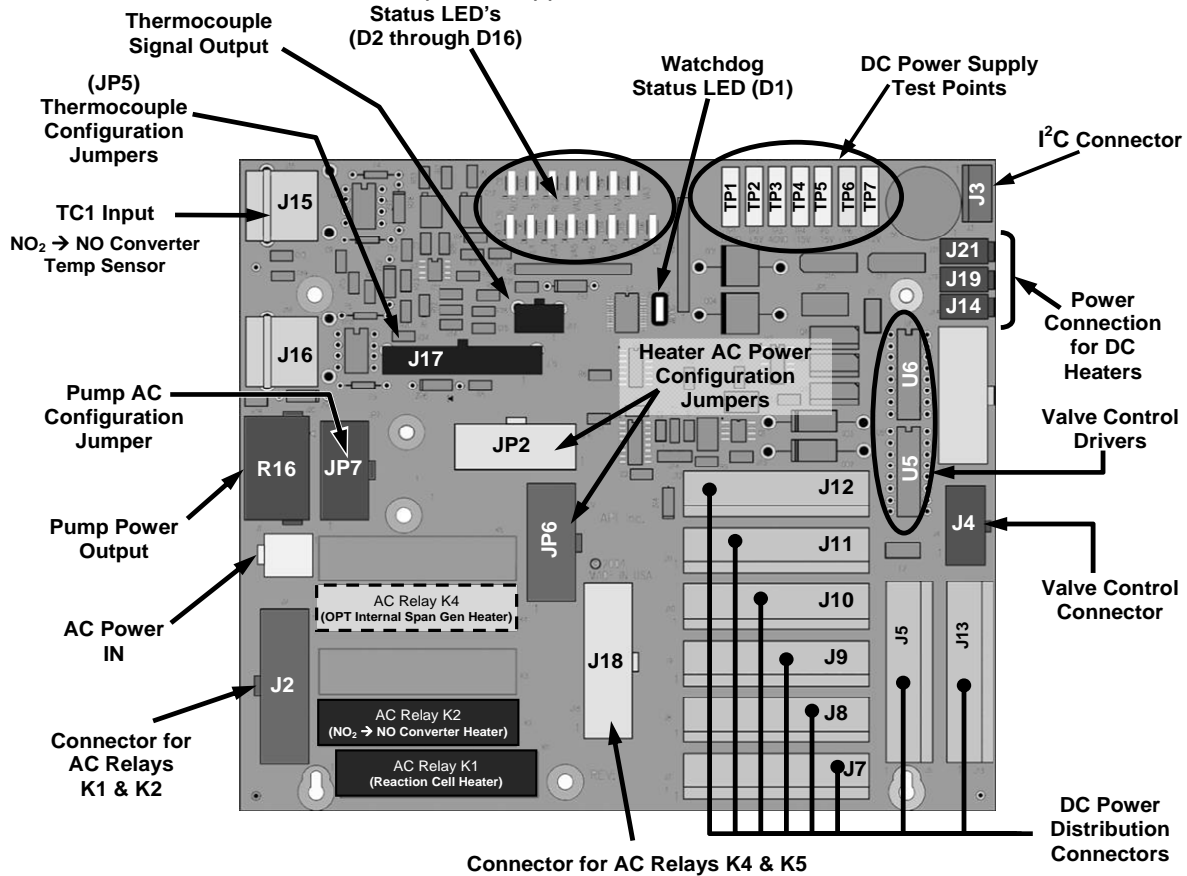

Figure 12-15: Relay PCA Layout (P/N 045230100)
- TC2 (J16) is currently not used (see Figure 12-15 for location of J15 and J16).